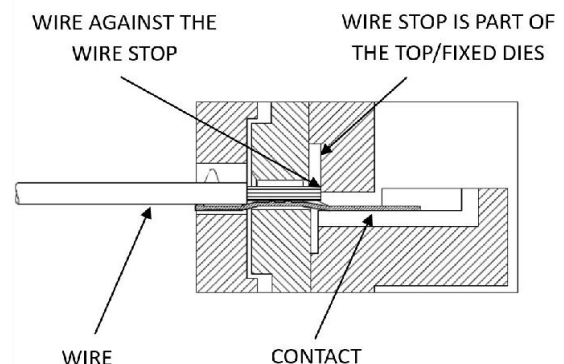

Figure 2
4. Insert the properly stripped wire through the contact and against the wire stop. See Figure 2.